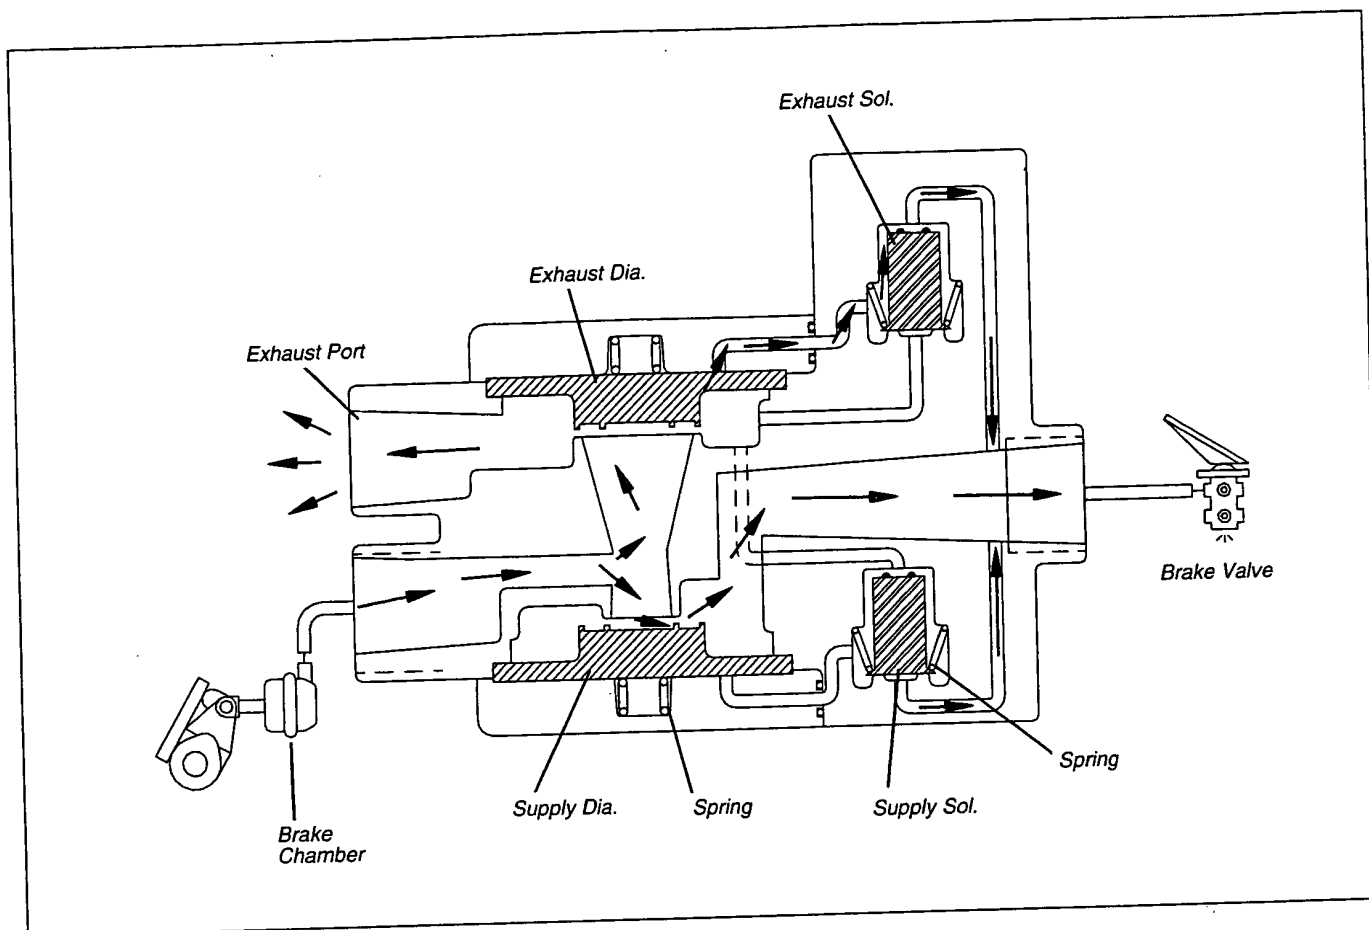

FIGURE 6 M-21, M-22 NON-ANTILOCK EXHAUST (RAPID)
**Rapid Exhaust (Figure 6)** - The Rapid Exhaust operation described in the following text only occurs when the modulator is controlling two type 30 (or larger)